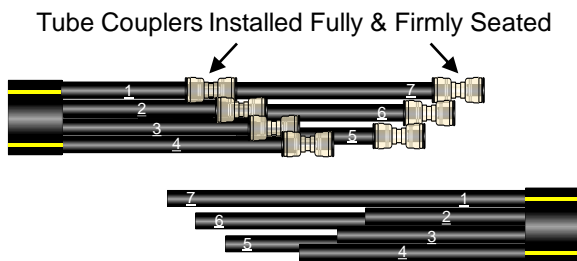

Figure 7
8.1 Choose either tube cable and install a Tube Coupling on each tube. Be sure each tube is pushed all the way into its coupling and fully and firmly seated. **See Fig. 7.**